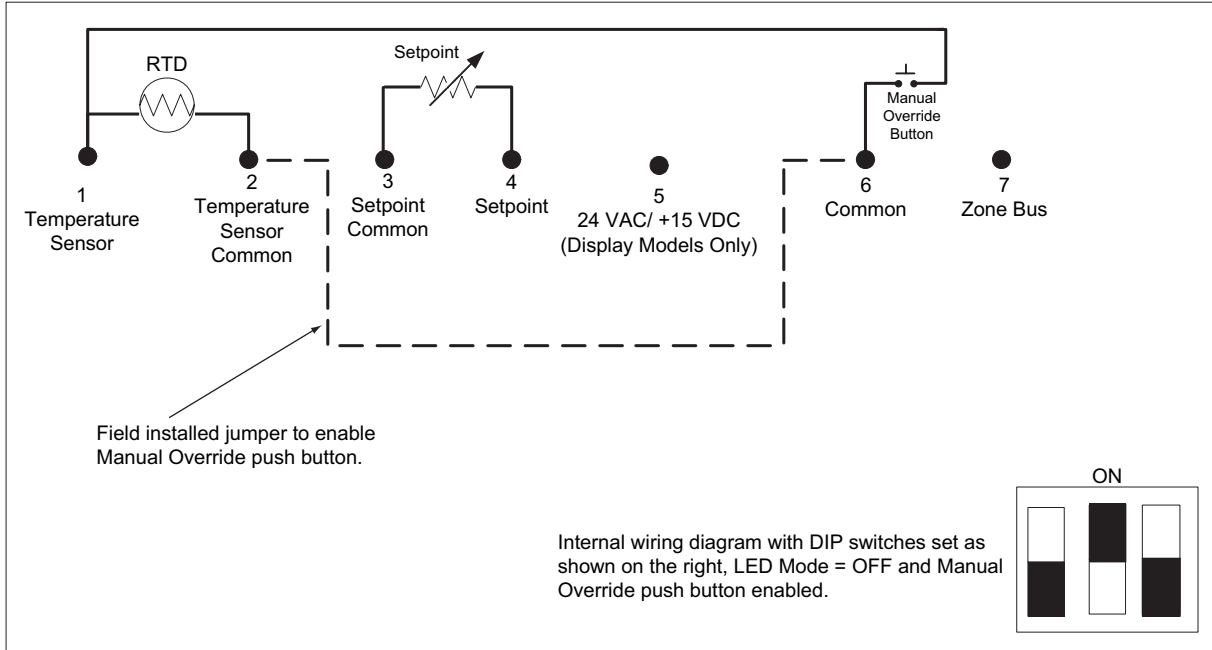
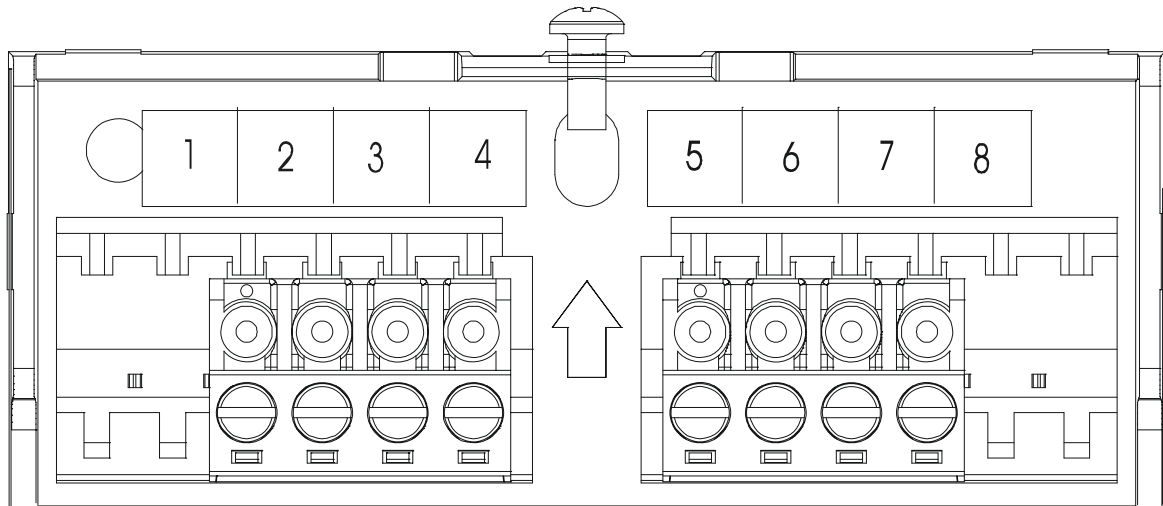

Figure 1: Terminal Block Wiring Designations (LED OFF Mode and Manual Override PB Enabled)
Figure 2: Terminal Block Location
6. Set DIP switches as shown in Figure 1. See Setup and Adjustments and Internal Wiring Diagrams for additional information.
For models featuring a screw terminal block, wire the unit as illustrated in Figure 1.
Internal wiring diagrams are shown in Figure 1 . Terminal block designations are shown in Figure 2. The terminals are identified in Table 1. Make connections pairing the following wires:
Do not use switch settings other than those shown in Figure 1. Using other switch settings may cause incorrect controller operation or damage to the element, controller, and/or controlled equipment.